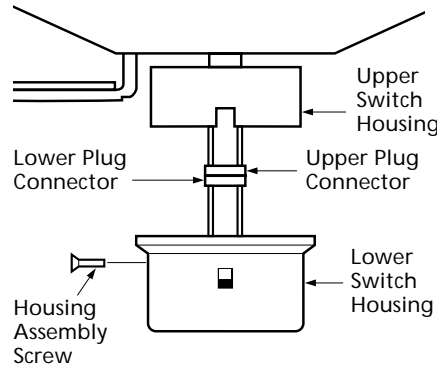

Figure 10e - Plug Connection and Lower Switch Housing Installation
1. Connect the upper plug connector from the motor to the lower plug connector in the lower switch housing assembly. See Figure 10e.
2. Place the lower switch housing assembly over the upper switch housing. Align the side screw holes in the upper and lower switch housings. Attach the lower switch housing to the upper switch housing with three #6-32 x 3/8" housing assembly screws. See Figure 10e.
6. Connect the upper plug connector from the motor to the lower plug connector in the lower switch housing assembly. See Figure 10e on page 25.
7. Place the lower switch housing assembly over the upper switch housing. Align the side screw holes in the upper and lower switch housings. Attach the lower switch housing to the upper switch housing with three #6-32 x 3/8" housing assembly screws. See Figure 10e on page 25.